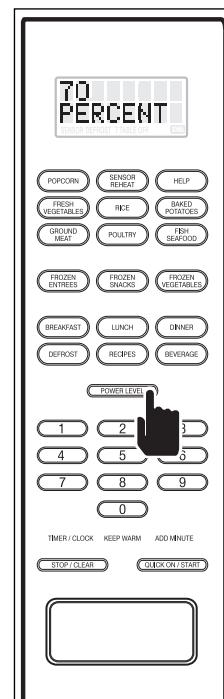

Figure 3-31.
2. Press the POWER LEVEL key in multiple key strokes until the desired power level is shown on the display (*in this example, four key strokes for 70% power*) (See Figure 3-31). After the last POWER LEVEL key stroke, the display will flash “70 PERCENT - PRESS START”.